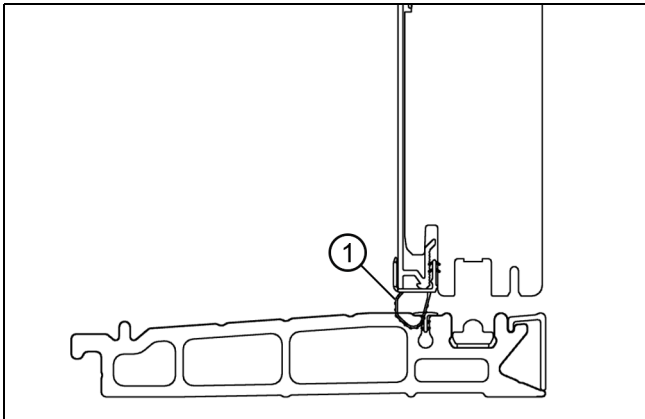

Figure 33
**1.** On active and inactive operator panels as well as interior stationary panels, insert the barbed side of the sill weatherstrip into the bottom of the panel. Rotate the other side to the clad side of the panel and then remove the adhesive backing. Press the weather strip onto the cladding. See Figure 33.